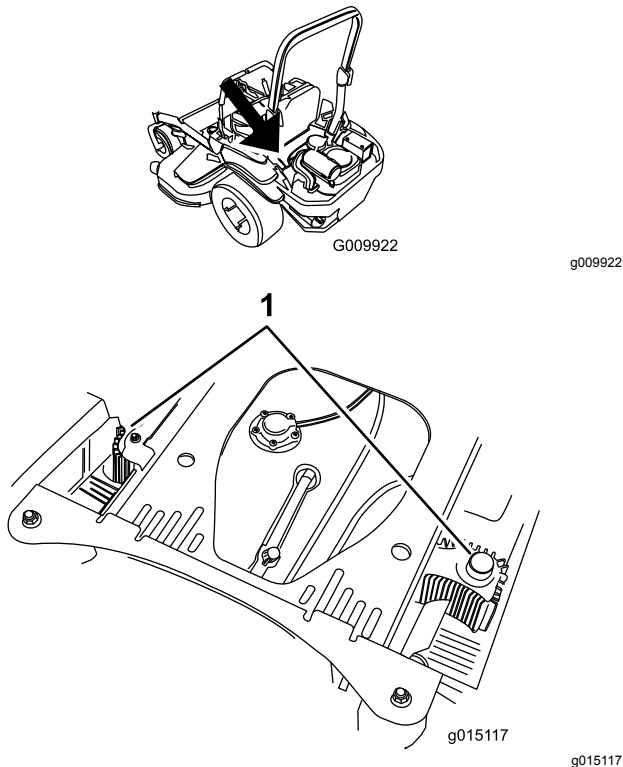

Figure 77
4. Clean the debris and grass from the hydraulic-unit shrouds (Figure 77).